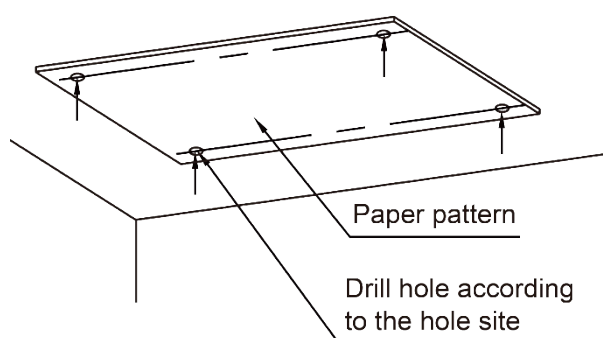
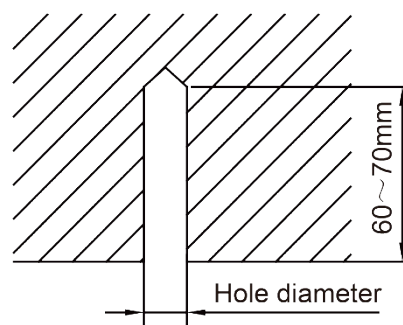

Fig 4.1.2
Fig 4.1.3
- 1)Stick the reference cardboard on the installation position; drill 4 holes according to the hole site on the cardboard as shown in fig 4.1.2; diameter of drilling hole is according to the diameter of expansion bolt and the depth is 60-70mm, as shown in fig 4.1.3.